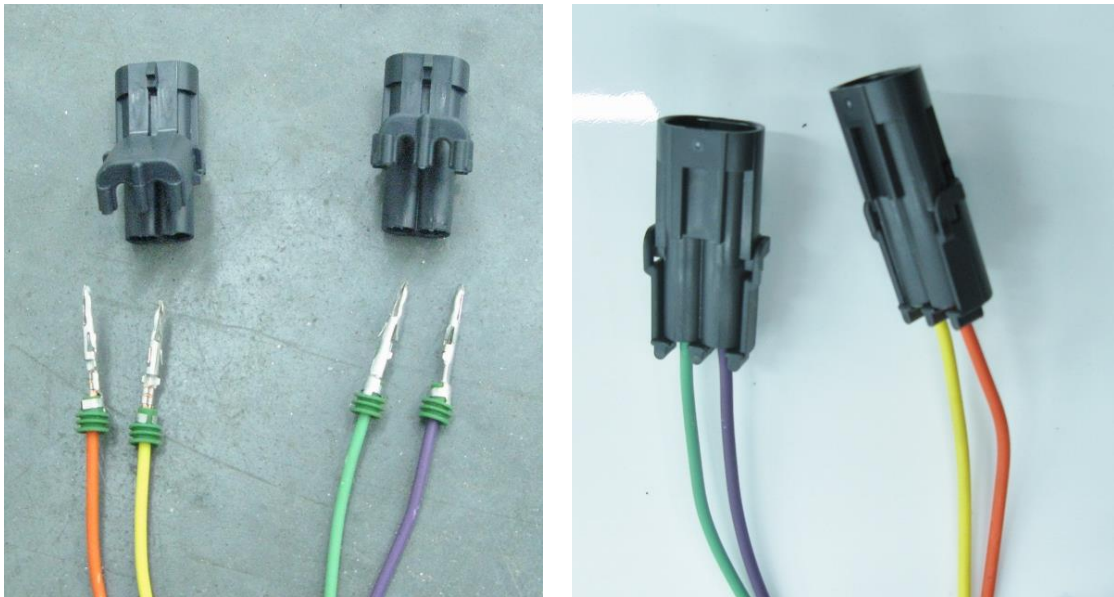

Figure 22 – Install Weatherpack Connectors
19. Remove the masking tape from the terminal ends and insert them into the supplied Weatherpack connectors. On the connector body, the cavities are labeled "A" and "B." On the driver's side, the orange wire should be inserted into the cavity labeled "A" and the yellow wire into cavity "B". On the passenger's side, insert the purple wire into cavity "A" and the green wire into the cavity labeled "B." Terminals should "snap" into place. Once the terminals are installed, snap the cover over the wires (Figure 22 on the next page).